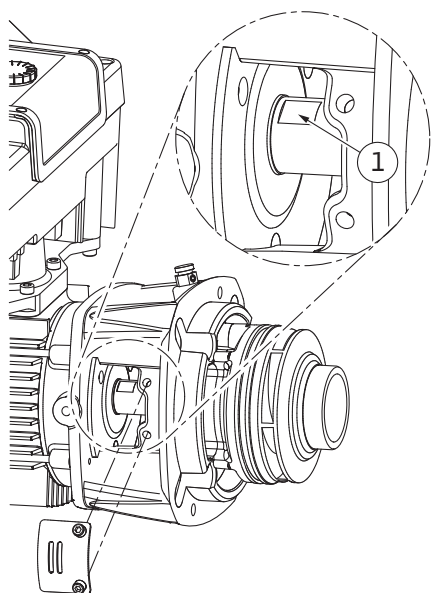

Fig. 110: Wrench flats on the shaft
14. Insert an open-end wrench (22 mm width across flats) into the lantern window and hold the shaft by the wrench flats (Fig. 110, Item 1). Unbolt the impeller nut (Fig. I, Item 22). The impeller (Fig. I, Item 21) is automatically pulled off the shaft.
3. Insert an open-end wrench (22 mm width across flats) into the lantern window and hold the shaft by the wrench flats (Fig. 110, Item 1).
10. Insert an open-end wrench (32 mm width across flats) into the lantern window (Fig. IV, Item 38) and hold the shaft by the wrench flats (Fig. 110, Item 1). Install the impeller with washer(s) and nut. Tighten the nut. Avoid damage to the mechanical seal due to jamming.